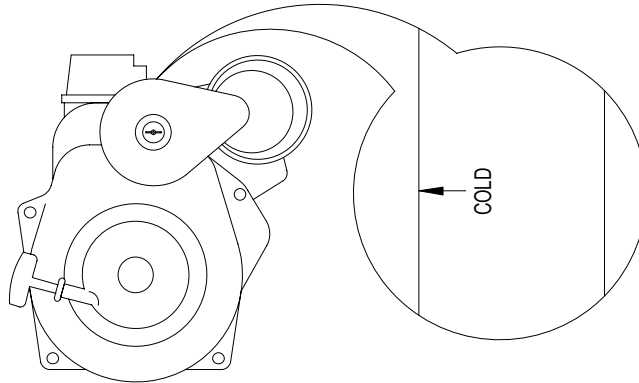

Figure 2-7. Air Intake Cover, Cold Operation
- (8) Turn air intake cover (2, Figure 2-1) to COLD position, refer to Figure 2-7.